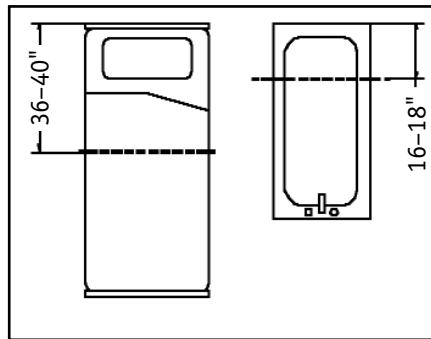

Figure 1
- a. Over a bed - approx. 36-40" (915-1020 mm) from the head of the bed (Figure 1).
- b. Over a tub - approx. 16-18" (400-460 mm) from the end of the tub (Figure 1).